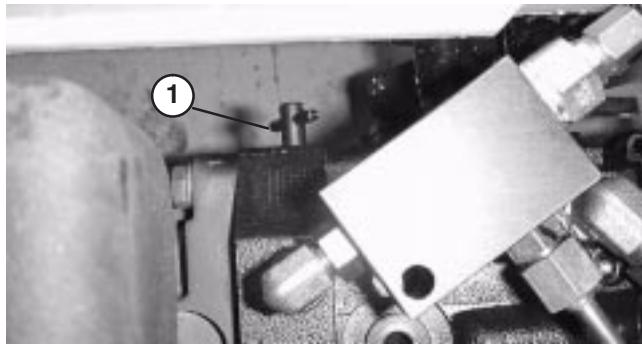

Figure 34
1. Reach under traction unit and rotate bypass valve (Fig. 34) 1/2 to 1 turn counterclockwise. Opening the valve opens an internal passage in the transmission, thereby bypassing transmission oil. Because fluid is bypassed, traction unit can be moved without damaging the transmission.